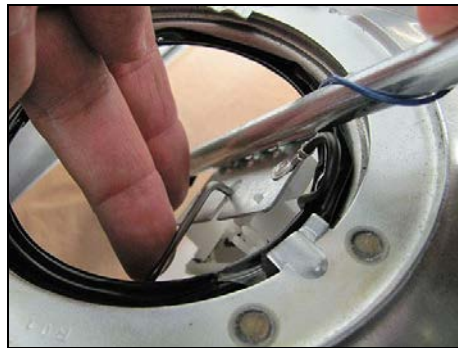

Figure 14
5. Install the hanger up to the place where the (FLS) float arm can be installed and snapped into position. **Be careful to avoid any portion of the HydraMat binding the motion of the fuel level sender float** (**Figure 14**).